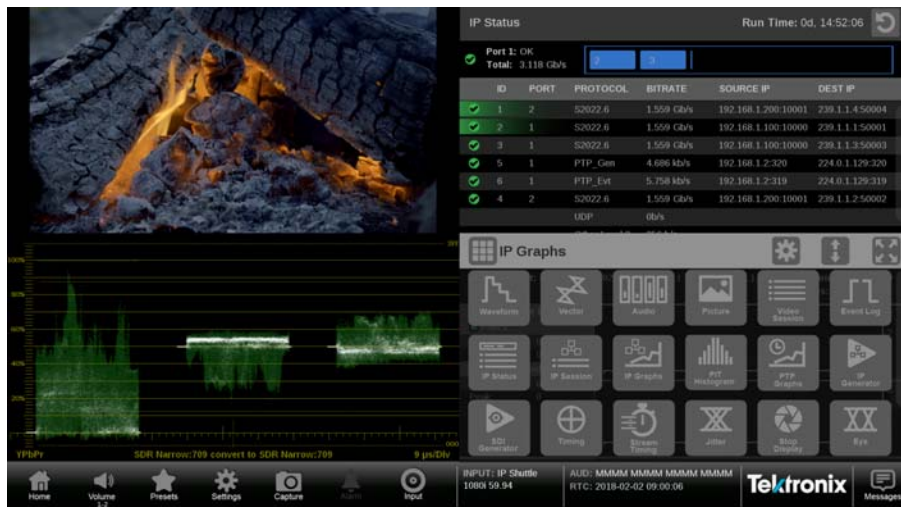

Figure 14: PRISM display in four-tile mode
2. If necessary, touch the  icon to open the list of available applications. (See Figure 14 on page 25.)